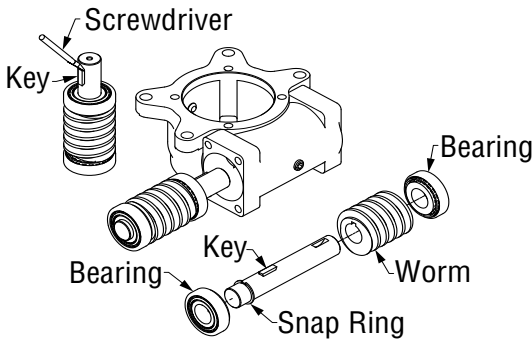

Figure 5-11, Input Shaft
10. Remove the input shaft assembly. The assembly fits tightly, so use a rubber mallet or press on the extended shaft to remove it. Remove the exposed key with a screwdriver, allowing the bearing and worm to slide off of the shaft. (Figure 5-11)